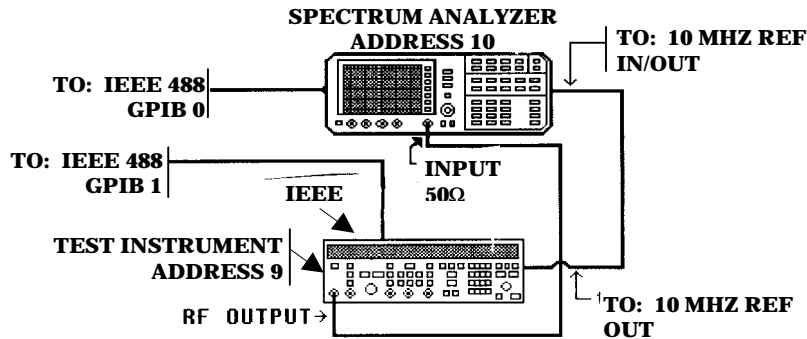

Figure 4. Harmonic, Subharmonic, Multiples and Non-harmonic spurious hookup.
(1) Connect equipment as shown in figure 4 below.